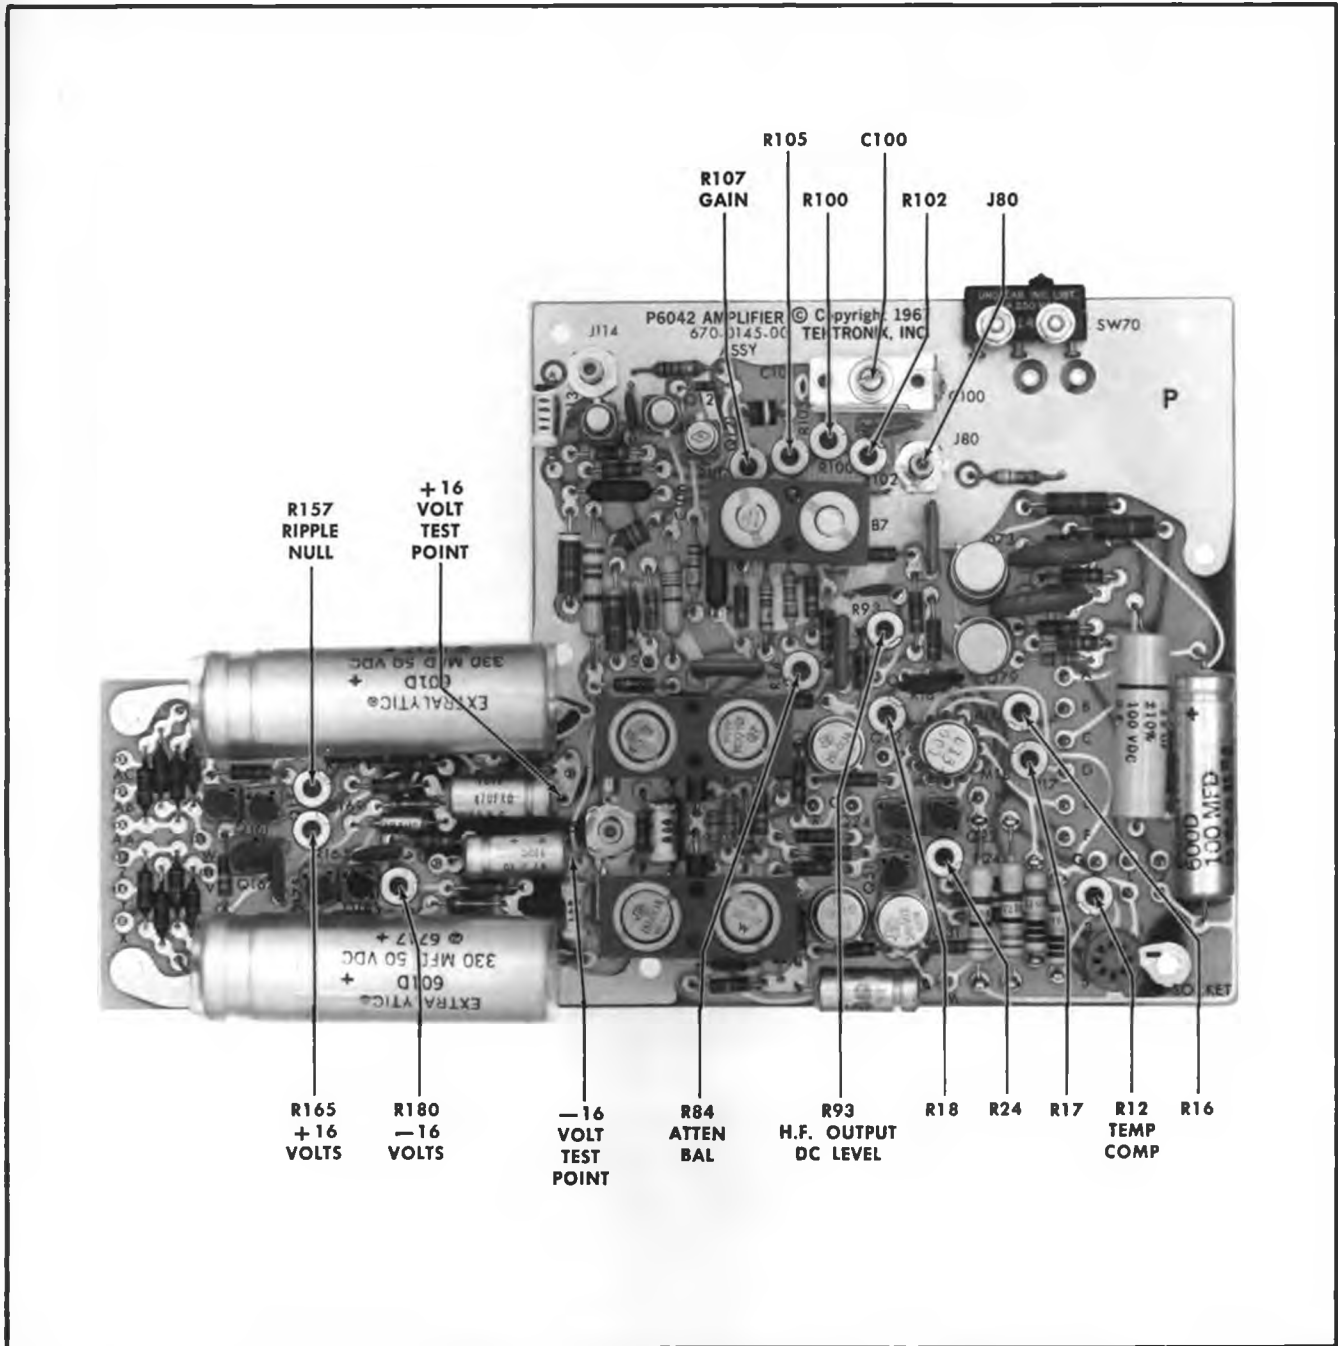
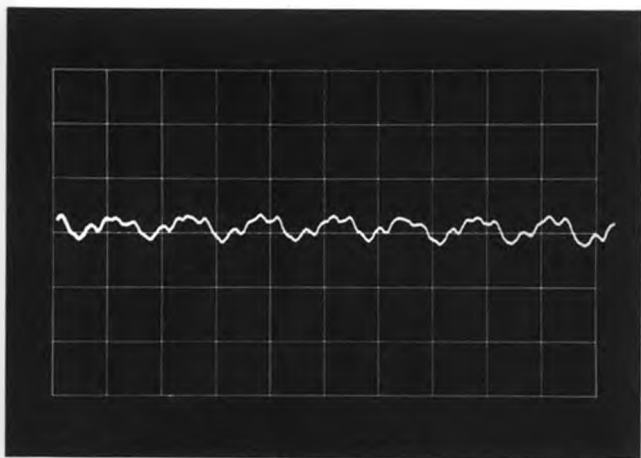

Fig. 6-3. Location of internal adjustments and test points.
Fig. 6-5. Typical ripple on + 16 volt supply at 500 μ volts/cm.
Before starting the procedure, preset R16, R17, and R18 counterclockwise. Do not preset any other internal calibration controls unless they are known to be significantly out of adjustment. In this case, set the remaining controls, with the exception of R12 to midrange. Do not adjust R12, which is a part of the temperature compensation network. This is set at the factory according to the requirements of the Hall device. If the probe transformer is replaced, contact your local field office for adjustment procedure. Fig. 6-3 shows the location of internal adjustments.
a. Using an ohmmeter, measure the resistance to ground at the +16 volt test point (see Fig. 6-3 for location of test point). Check for $\geq 300 \Omega$. Connect positive probe to test point.
b. Check the resistance to ground at the -16 volt test point (see Fig. 6-3) for $\geq 200 \Omega$. Connect negative probe to test point.
c. Adjust R157 for minimum ripple. Fig. 6-5 shows a typical ripple display at 500 μ V/cm.
5. Adjust Attenuator Balance (R84) ❶
a. Remove the connection from J80, on the amplifier circuit board. See Fig. 6-3 for location of J80.